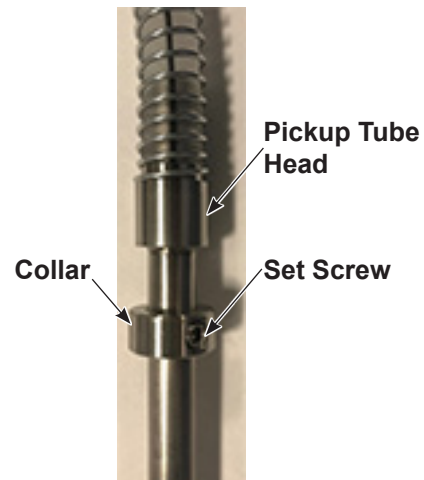

Figure 7 Install Collar
6. See Figure 7. Loosen the set screw on the collar and slide collar up over pickup tube toward the pickup tube head. Leave about 2 in. of space between pickup tube head and collar and tighten set screw.